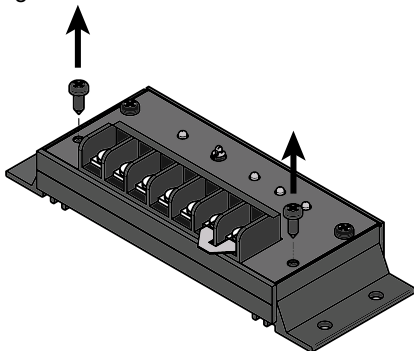

Figure 8a. Remove 2 faceplate screws.
Begin by removing the two (2) lower faceplate screws as shown in figure 8a. Set the screws aside.